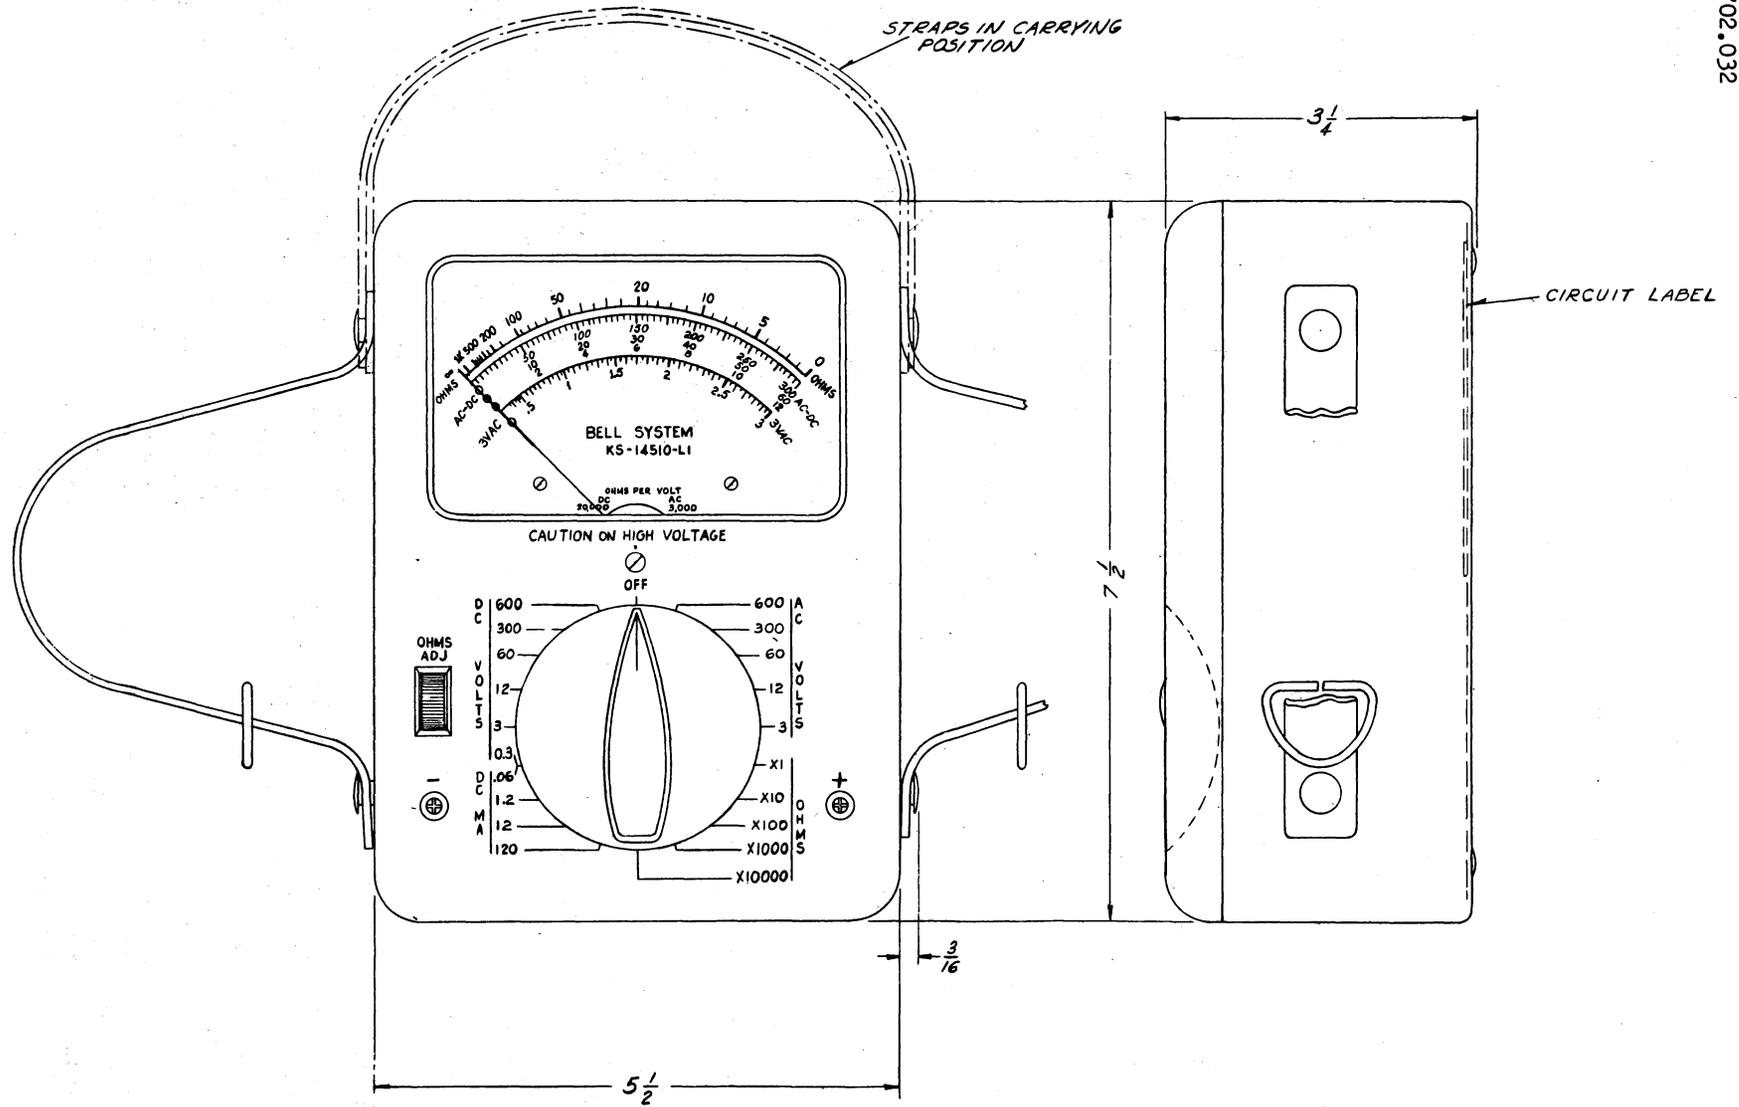

Fig. 1 - KS-14510 Meter
2.01 The meter, illustrated in Fig. 1, is provided with the following ranges, available by means of a range switch: